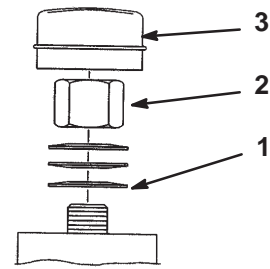

Figure 37
2. Remove dust cap from castor and tighten lock nut (Fig. 37).
3. Tighten until spring washers are flat and then back off a 1/4 turn to properly set the preload on the bearings (Fig. 37).
Important Make sure spring washers are installed correctly as shown in Figure 37.